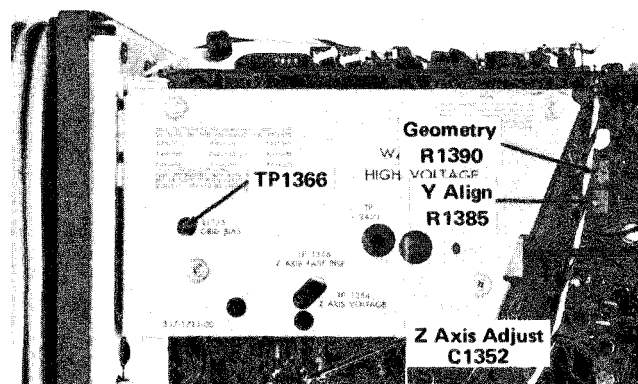

Fig. 5-4. Location of Y-Axis Align, Z-Axis, and Geometry adjustments and test point.
f. ADJUST—Y Axis Alignment adjustment, R1385, (see Fig. 5-4) to align the center time marker with the center vertical line.
b. ADJUST—Geometry adjustment, R1390 (see Fig. 5-4) for minimum curvature of the time markers across the viewing area.
- b. Connect the X10 probe from the Test Oscilloscope to TP1366 (see Fig. 5-4).
- f. ADJUST—Z-Axis Compensation adjustment, C1 352, using a low capacitance screwdriver, (see Fig. 5-4) for optimum square corner on the unblanking gate.